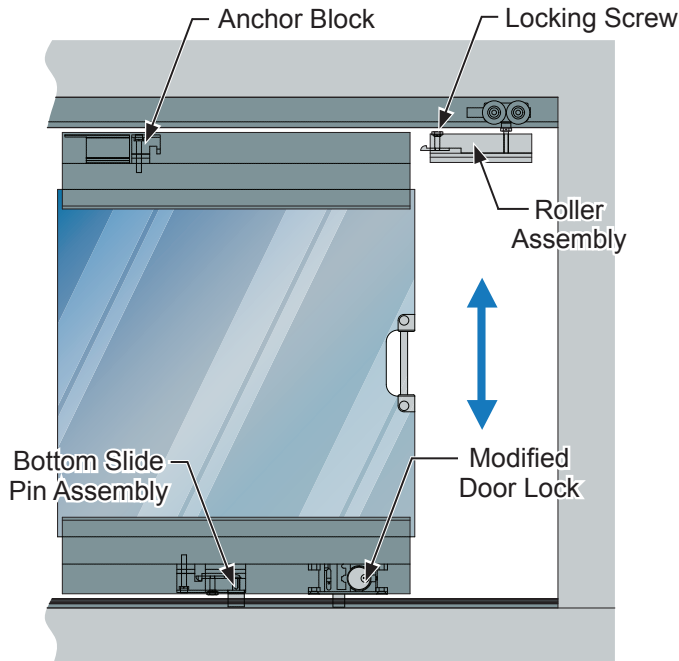

FIG. 14
1. Lift the sliding door leaf and insert the bottom slide pin assembly on the door into the recessed guide channel Or into the optional surface mounted saddle threshold. **(Fig. 14)**